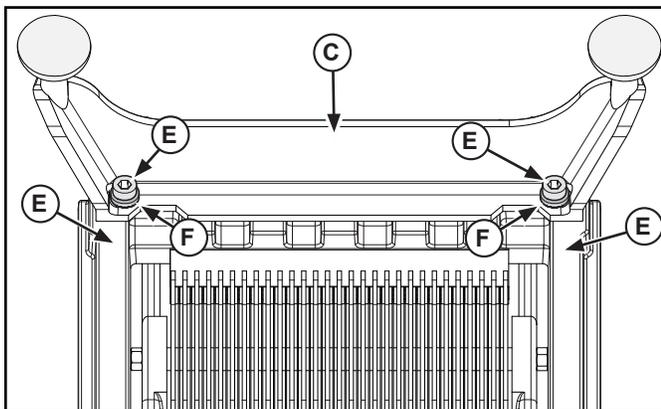

Figure 3. Mounting the Legs on the Fruit Cutter.
- Secure legs (C) to base (D) using screws (A) and washers (B). See Figure 3.